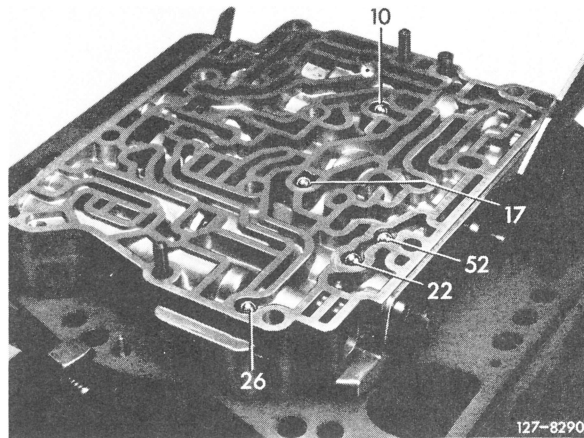

Fig. 11
**6** Lift bottom from assembly fixture and remove five balls of 5.5 mm dia. (10, 17, 22, 26 and 52) by tilting (Fig. 11).
**20** Place five balls of 5.5 mm dia. (10, 17, 22, 26 and 51) into countersunk seats (Fig. 11).